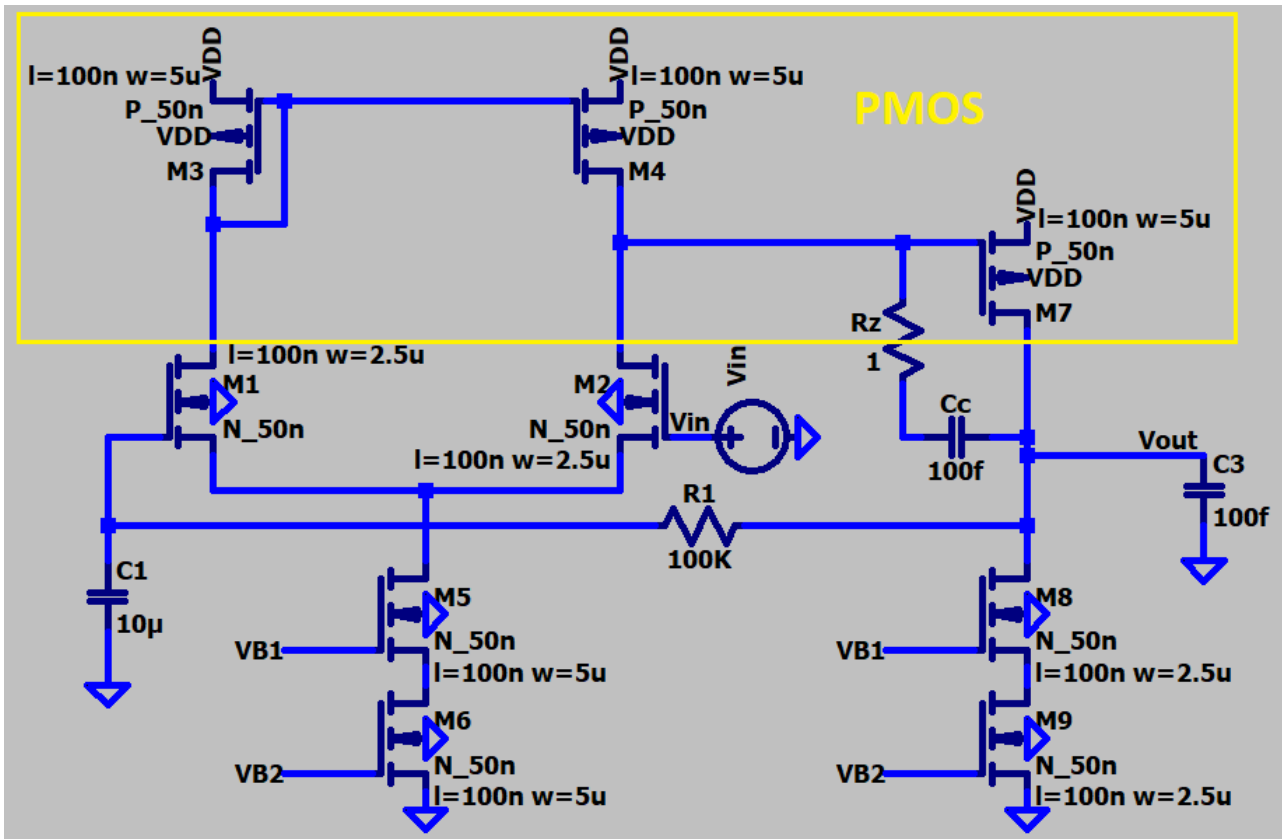

Fig. 1. CMOS operational amplifier
3. Connect the op-amp circuit in Fig. 1:
4. Carefully modify the transistors' widths and lengths according to the circuit diagram in Fig. 1, do not forget to connect Grounds and VDDs.